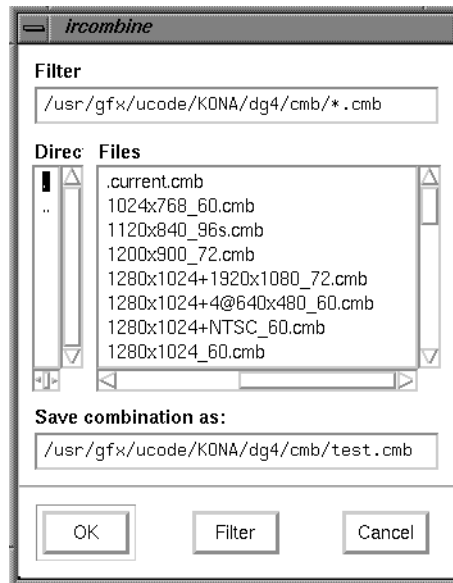

Figure 3-19 Save a Combination Using the ircombine Window
7. From the File pulldown menu on the Combiner main window, select Save As. The ircombine window appears (see Figure 3-19).